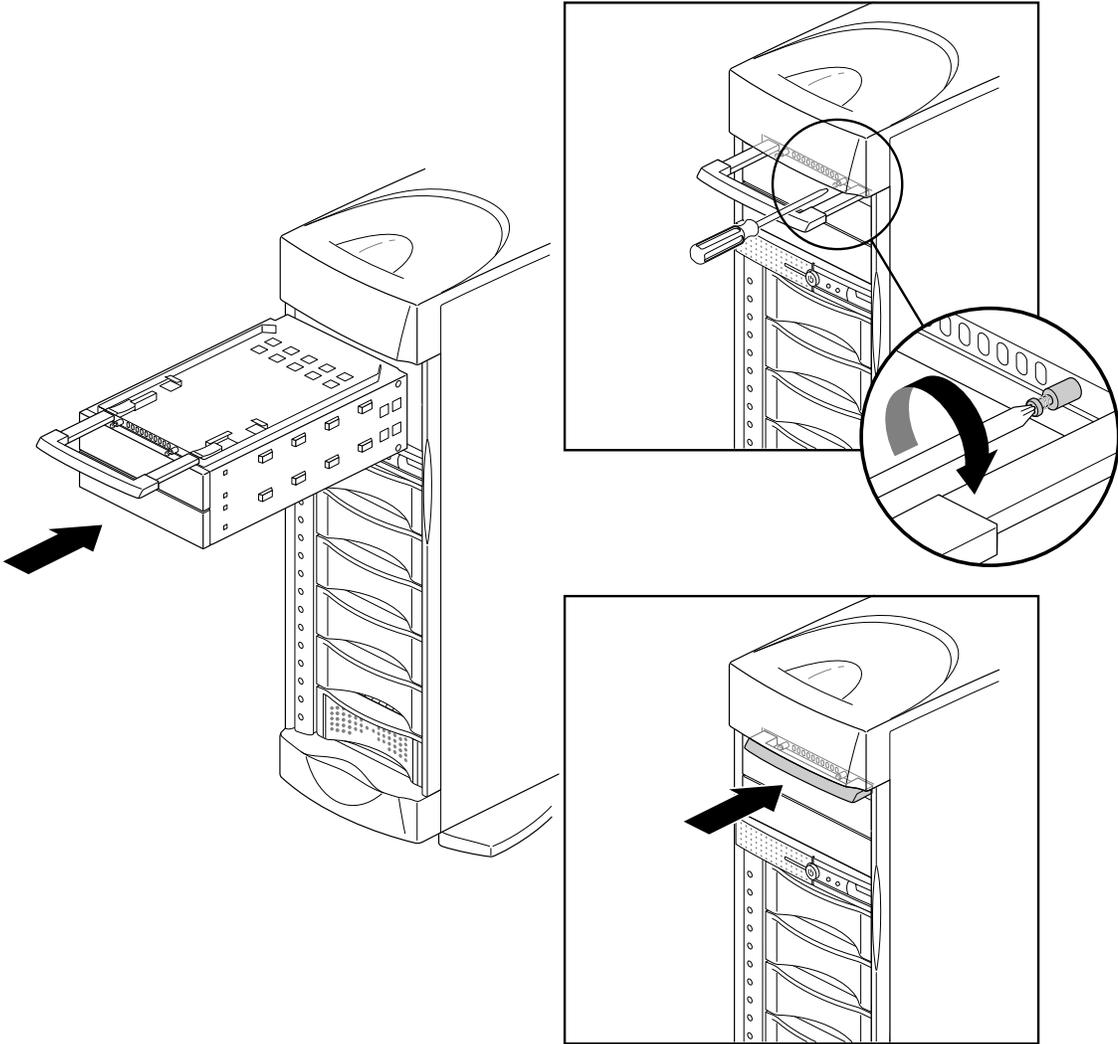

Figure 2-23 Replacing the 5.25-Inch Peripheral Carrier
8. Slide the carrier into the system, secure it with the captive screws, and push in the retractable handle. See Figure 2-23.